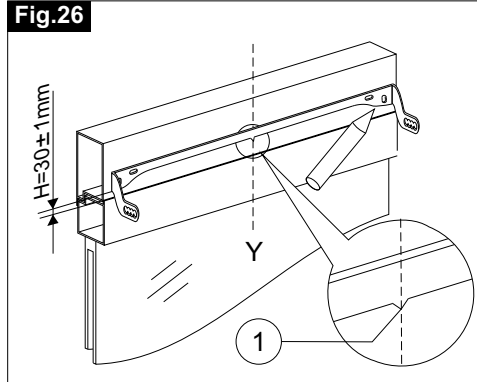

Fig.27
- 4) **Fig.27/28**- With a suitable drill, perform four holes of $\varnothing 3.7$ on the frame and tighten the bracket with the suitable screws;